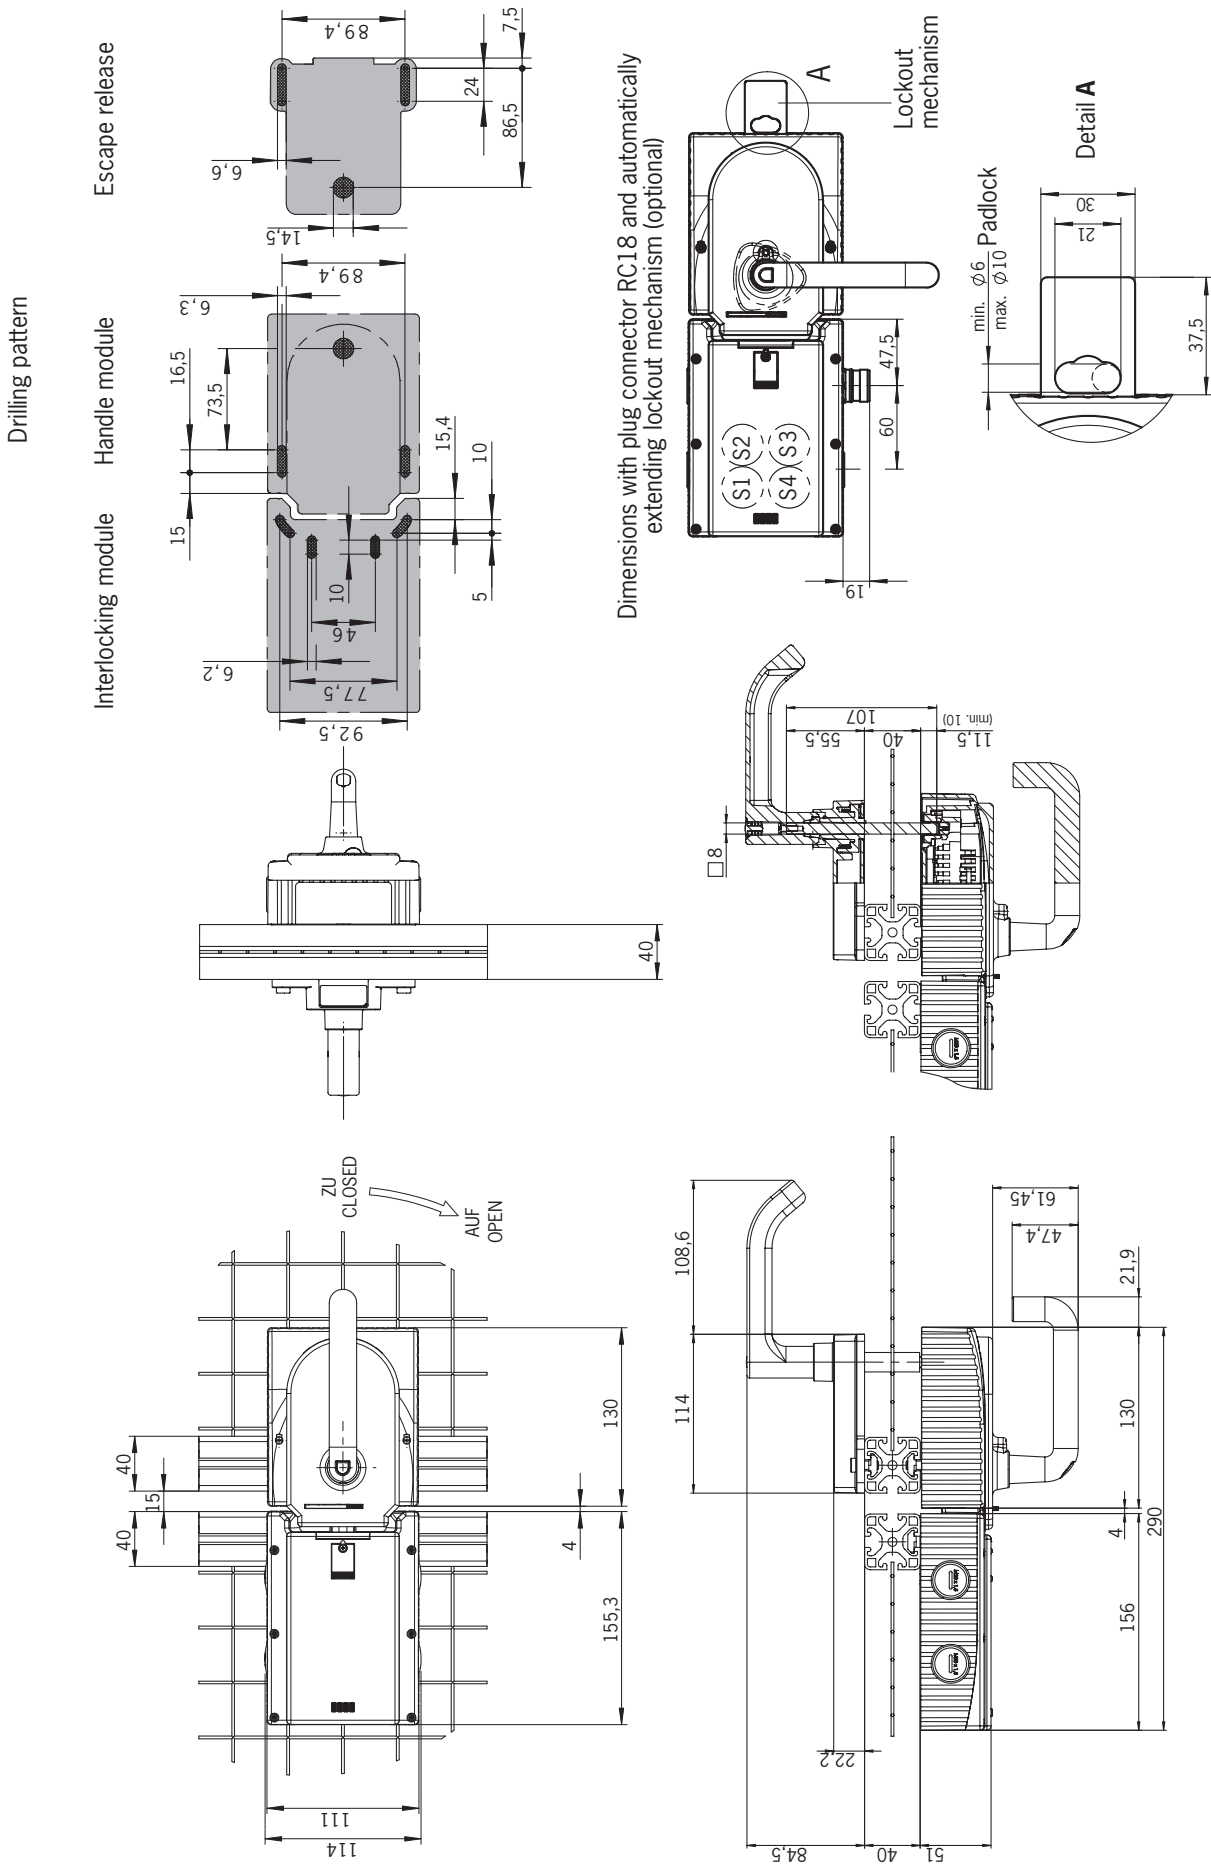

Figure 4: Dimension drawing MGB fitted, without optional mounting plates
- Align escape release axis at right angles to the handle module. See Figure 4 and Figure 7.